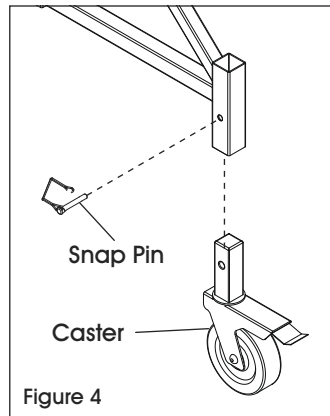

Figure 4
1. Install caster (E) into outrigger (C) and secure with snap pin (D). Repeat for remaining three outriggers. (See Figure 4)